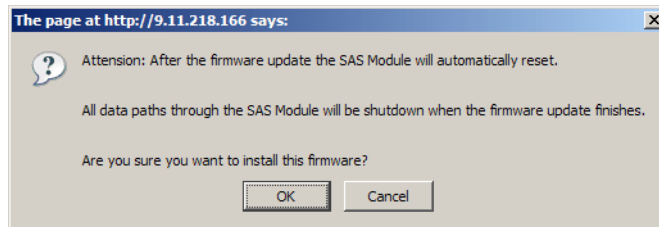

Figure 18-9 SAS Connectivity Module - Installation confirmation
4. Click **Install** to install the new file. An installation confirmation window opens, as shown in Figure 18-9.